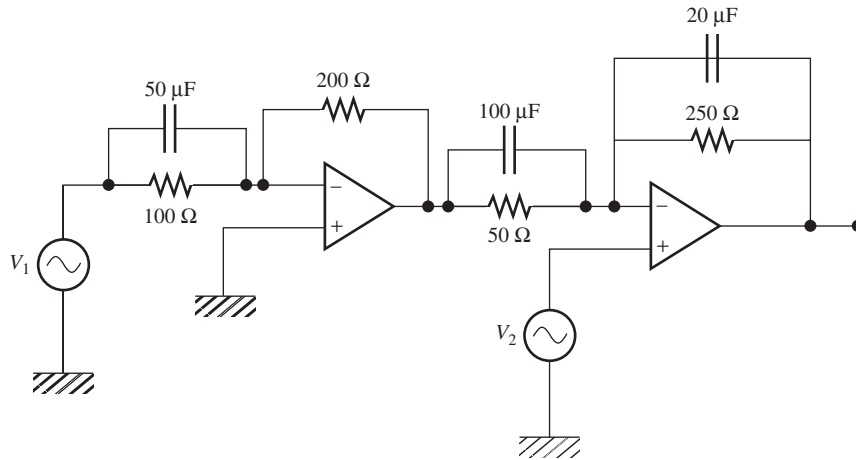

FIGURE P11.27 Circuit for Problem 11.27.
- 11.27** (H) Given that both voltage sources, V_1 and V_2 , are $120\ \text{V}$, $60\ \text{Hz}$ what is the output voltage of the circuit shown in Figure P11.27?